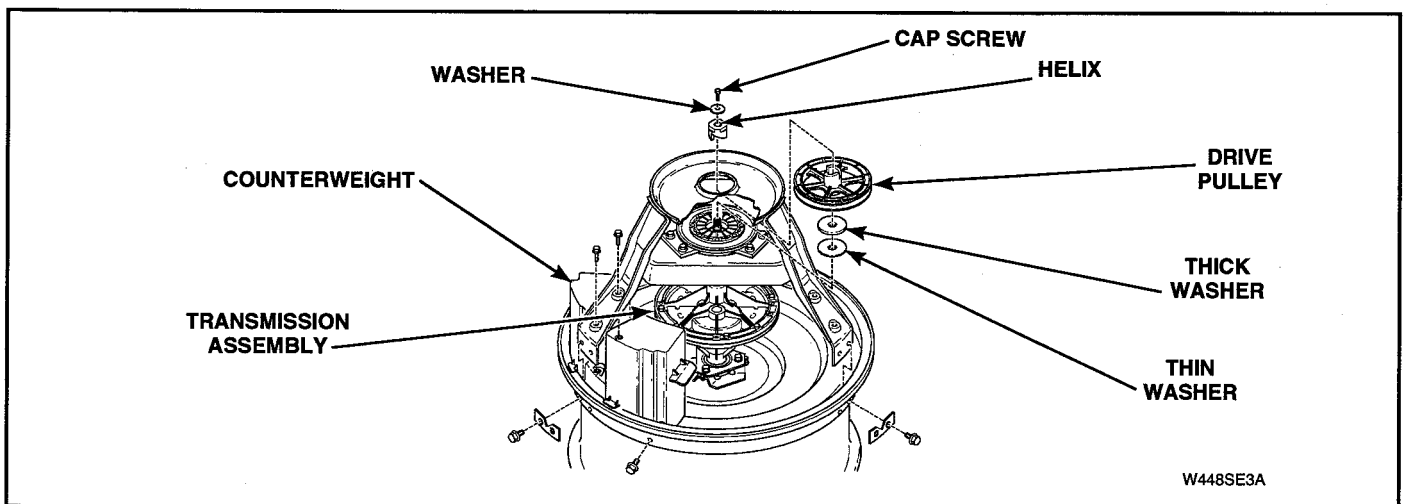
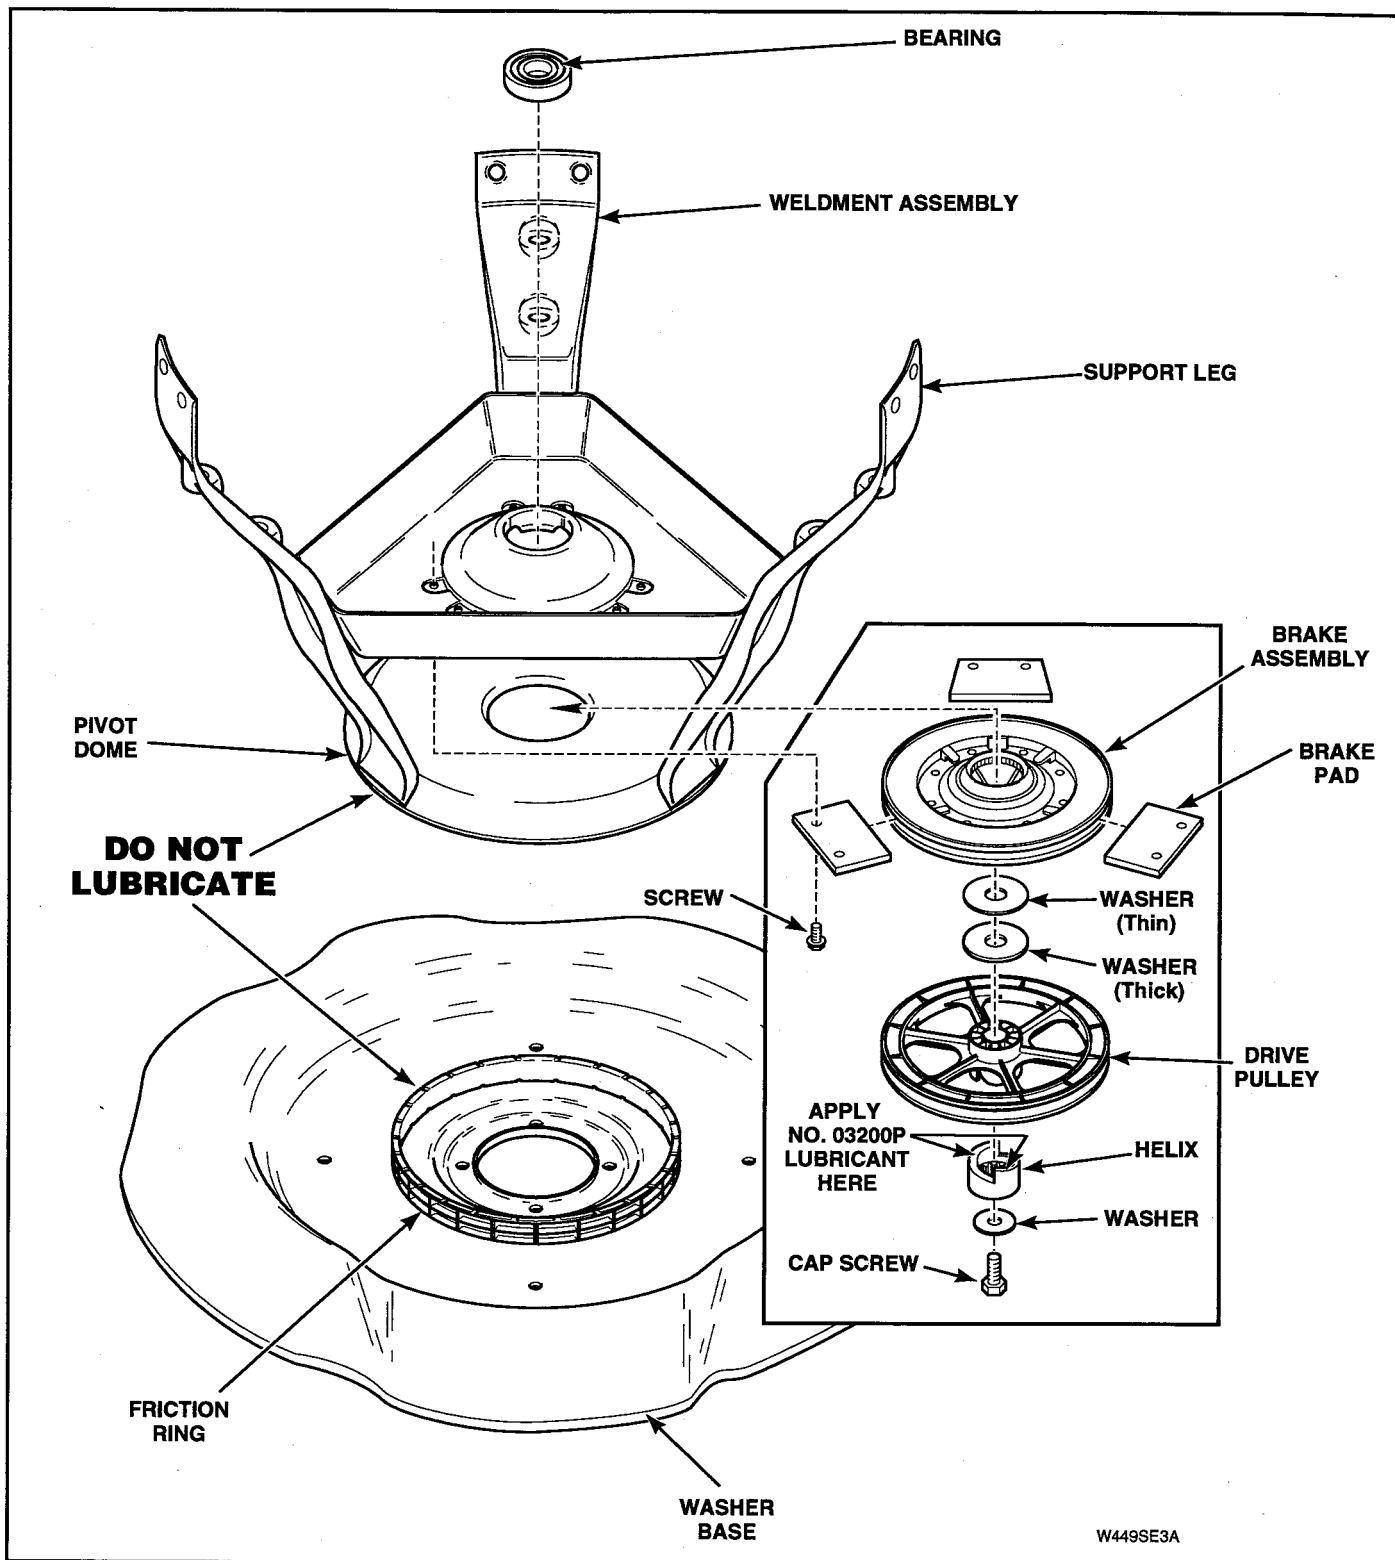

Figure 5-38
Figure 5-39
- m. Remove screw, washer and helix holding drive pulley to input shaft and transmission assembly. See Figure 5-38.
NOTE: When reinstalling pulley, place a small amount of No. 03200P Lubricant on top side of the drive pulley that will be contacting large flat washers. See Figure 5-38 for assembly sequence. Lubricate helix ramps and bore with a small amount of No. 03200P Lubricant. See Figure 5-39.
- o. Remove screws holding three brake pads and brake assembly to weldment assembly. See Figure 5-39. Then remove brake assembly and pads off bottom of weldment assembly.
NOTE: Refer to Figure 5-39 for assembly sequence.